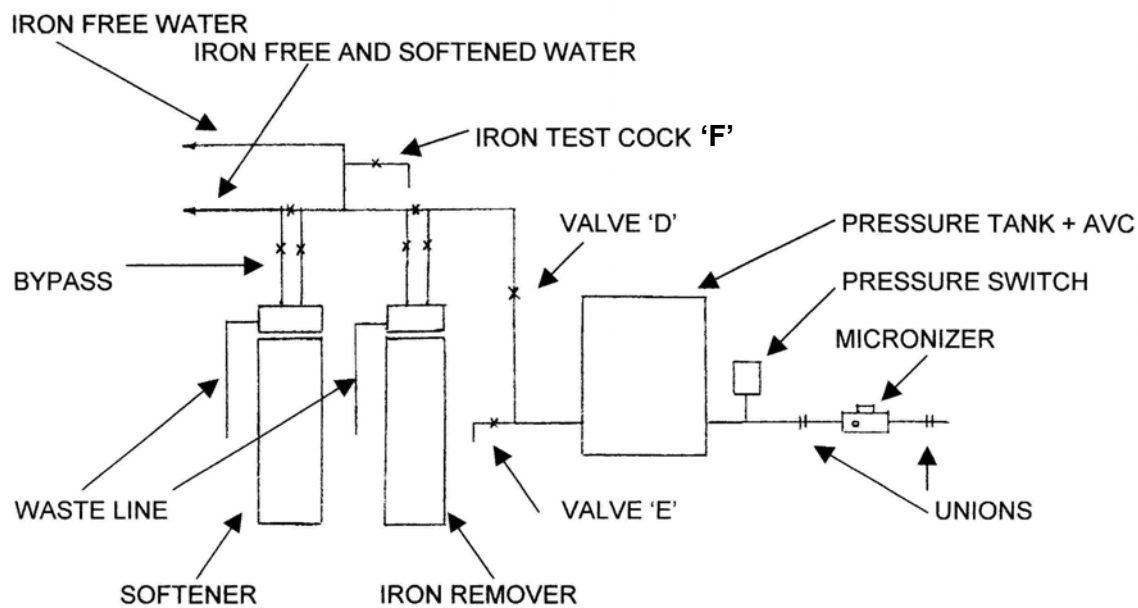

FIGURE 1
1. Turn off the power to the pump (see Figure 1). Drain the pressure tank and the water system.
6. Cut the main service line downstream of the pressure tank to insert the filter vessel. It is recommended that a factory bypass valve be installed which will act as a filter tank by-pass in the event of filter servicing. Install a ball or gate valve upstream to the filter tank inlet (valve 'D' in Figures 1 and 2). Using a tee, install a pressure tank drain cock if one is not presently in service (valve 'E' on Figures 1 and 2).
7. Copper, CPVC or PEX plumbing pipe may be used, in accordance with local plumbing codes. Minimum sizing is $\frac{3}{4}$ ". While connecting, do not apply heat to any fitting connected to the filter control valve as damage may result to internal parts. Make sure that the direction of flow through the control valve on the filter conforms to "inlet" and "outlet" markings on the valve. It is recommended to install a water sampling cock using a tee between the iron filter vessel outlet and the water softener inlet (valve 'F' on Figure 1 and 2). This will allow sampling of iron-free water free of any residual iron that may be present in the softener or water heater that may give false high readings.